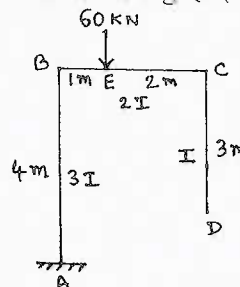

Fig.Q3(b)
- b. Compute the vertical displacement at the free end D, of the frame by strain energy method. If $EI = 2 \times 10^4 \text{ kNm}^2$, the frame is as shown in Fig.Q3(b).